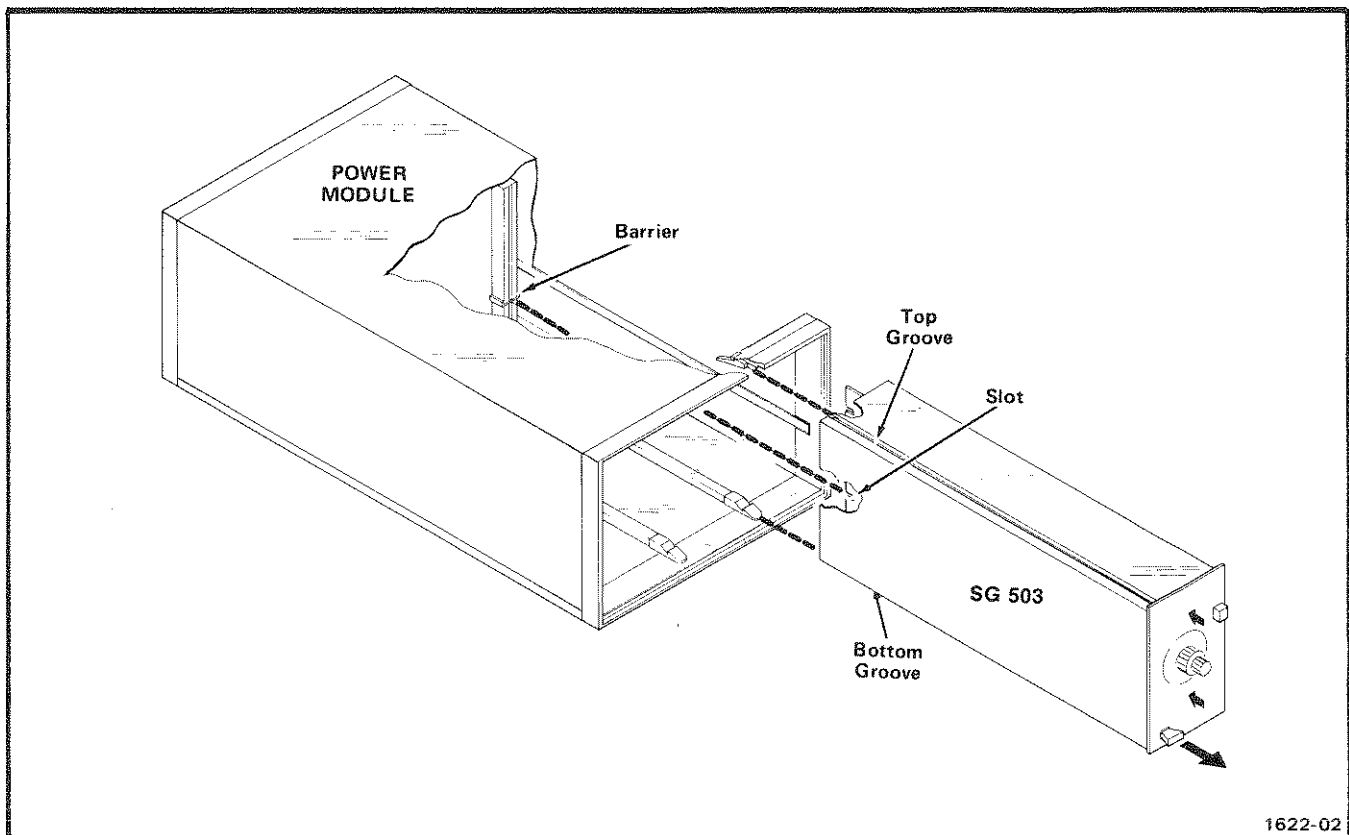

Fig. 1-2. Plug-in installation and removal.
*Turn the power module off before inserting the plug-in; otherwise, damage may occur to the plug-in circuitry. Because of the high current drawn by the SG 503, it is also recommended that the power module be turned off before removing the SG 503. Refer to Fig. 1-2. Check to see that the plastic barriers on the interconnecting jack of the selected power module compartment match the cut-outs in the SG 503 circuit board edge connector.*